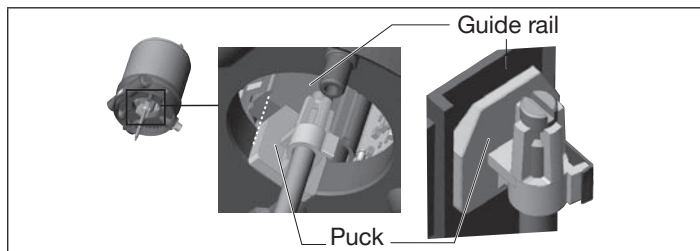

Fig. 7: Aligning the puck
1. the puck can be inserted into the guide rail of the control head (see “Fig. 7”) and